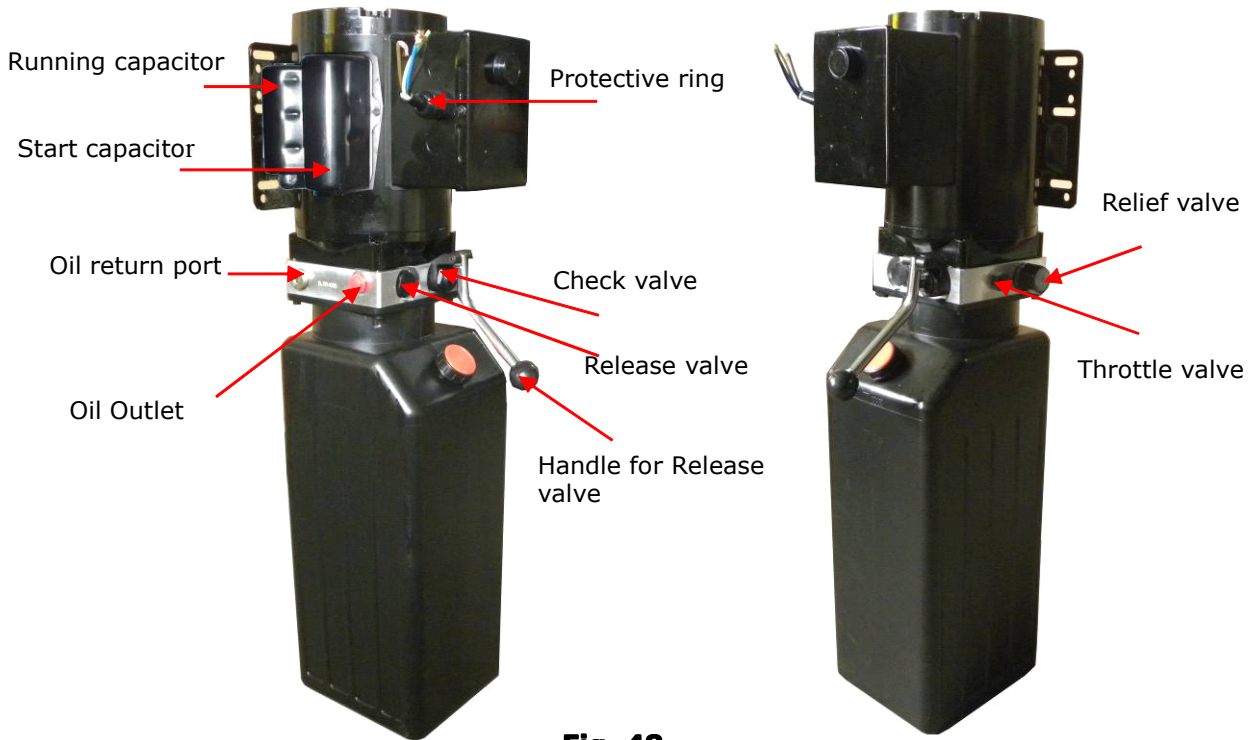

Fig. 48
b. PEAK manual power unit, 220V/50HZ, Single phase (See Fig. 48)